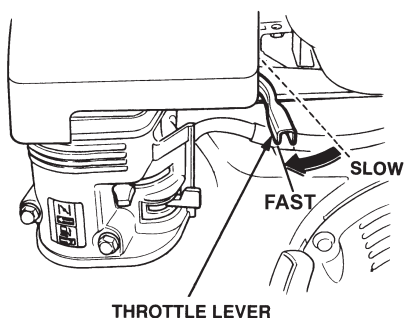

Figure 9. Throttle Lever
3. Move the throttle lever (Figure 9) away from the slow position, about 1/3 of the way toward the fast position.